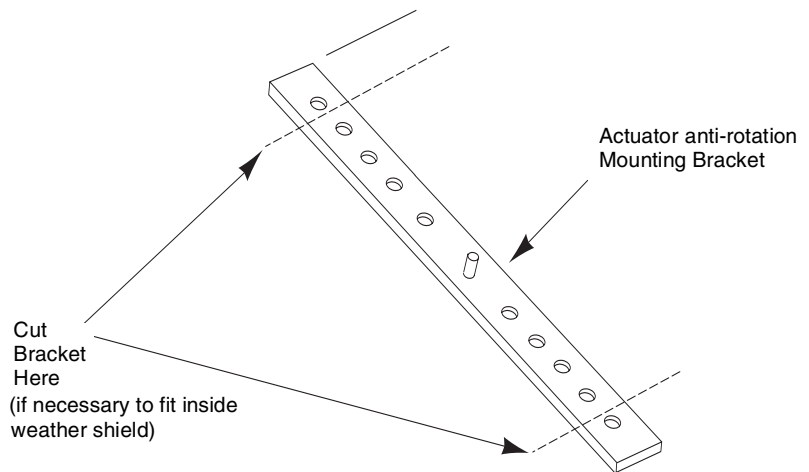

Figure-1 Shortening the Actuator Mounting Bracket.
2. Shorten both ends of the damper actuator's anti-rotation mounting bracket, if necessary to fit inside weather shield, by cutting it at each end (See Figure-1). Mount the damper actuator onto the base mounting plate. Install any accessories onto the actuator, as applicable.